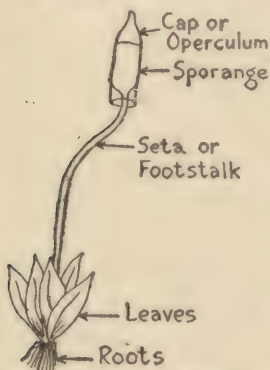

FIG. 38.—THE STRUCTURE OF A TYPICAL MOSS PLANT
(3) the *antheridia* and *archegonia*, which are the male and female reproductive organs, and are placed close to the axis and at the apex of the leaves; (4) the *setal*, or *footstalks*; (5) the *sporangia* wherein the spores are held until (6) the *caps*, or *opercula*, fall off and set them free as shown in Figure 38.